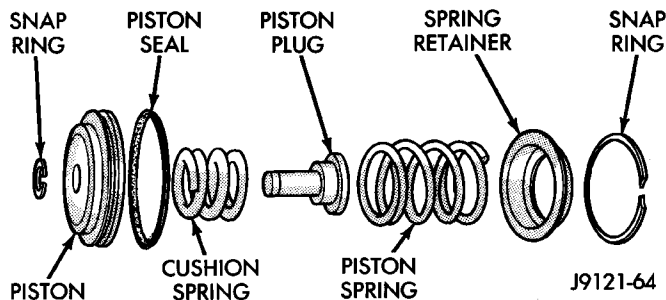

Fig. 157 Rear Servo Components
- (1) Remove small snap ring and remove plug and spring from servo piston (Fig. 157).
- (2) Remove and discard servo piston seal ring.